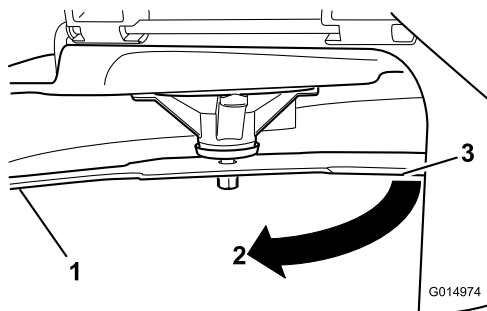

**Figure 57**
5. Measure from the tip of the blade to the flat surface (Figure 57).